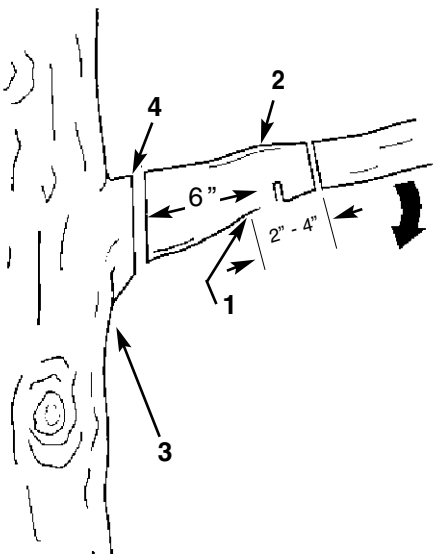

Fig.16
1. Make first cut six inches from tree trunk on underside of limb. Use top of guide bar to make this cut. (Cut 1/3 through diameter of limb, see Fig. 16)